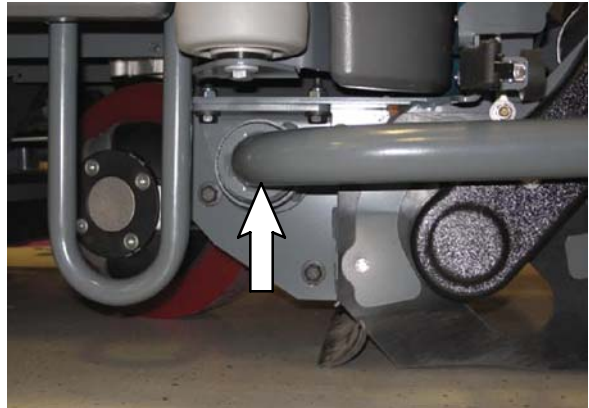

FIG. 3
7. Place jack stands underneath the Pre-Sweep tube weldment where the weldment is attached to both sides of the Pre-Sweep frame and lower the machine onto the jack stands. Refer to Fig. 3.